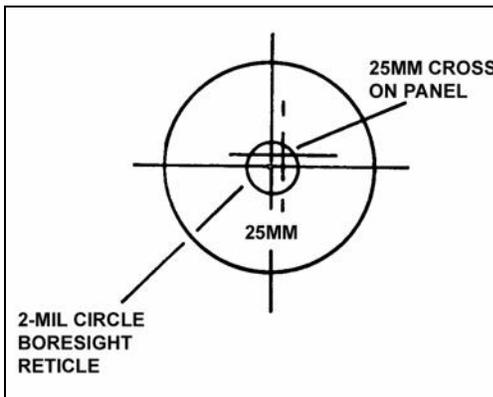

Figure B-56. Boresight retention met.
- (1) Obtain a 25-mm boresight kit that passes the kit accuracy test.
- (2) Prepare, lay the 25-mm gun, and align the ISU day reticle as described in previously.
- (3) Tape the covers of the boresight knobs to prevent accidental movement or adjustment.
- (4) Record distance traveled and temperature variations during the vehicle operations. For example, record extreme temperatures and precipitation.
- (5) Test boresight retention.
- (e) Determine boresight retention. The weapon meets the 1-mil field standard if the 25-mm cross on the panel falls on or within the 2-mil circle on the boresight telescope (Figure B-56). The weapon fails to meet the standard if the 25-mm cross on the panel falls outside the 2-mil circle on the boresight telescope.